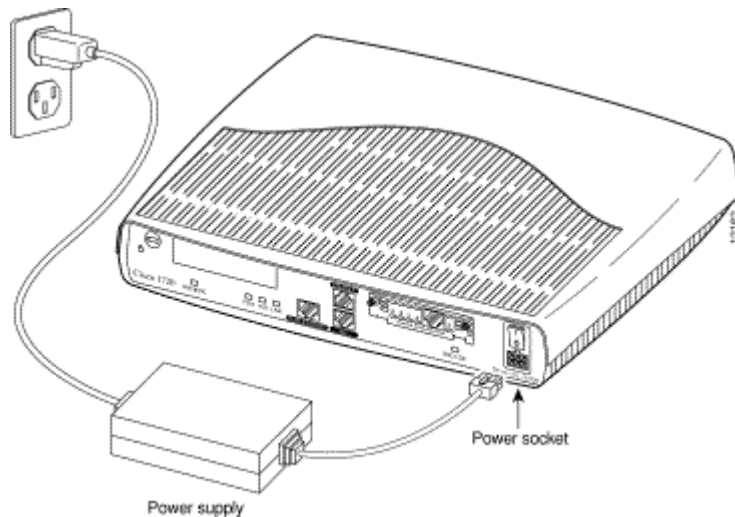

Figure 1
Step 1 Connect the DC power cable (included with the router) from the power supply to the DC power input on the rear panel of the router. (Figure 1)